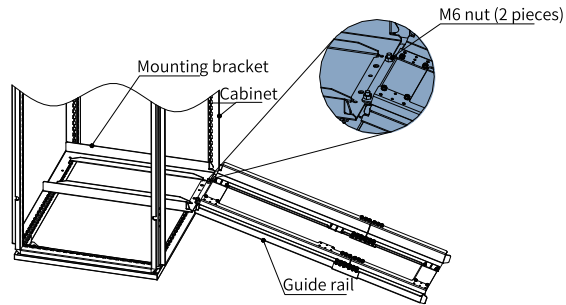

Figure 1-12 Mounting the guide rails on the cabinet
b. Align the two round holes on the front end of the guide rails with the screws of the mounting bracket, and lock them with two M6 nuts, to mount the guide rails on the cabinet, as shown in *"Figure 1-12 " on page 23 .*